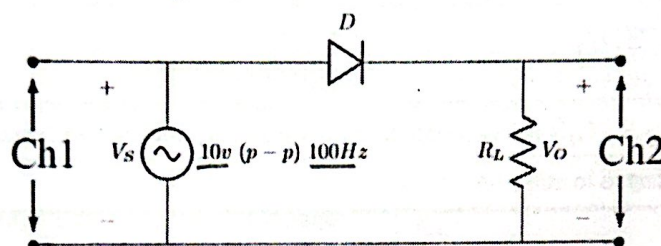

Figure 7: Half-Wave Rectifier
1. Construct the circuit of Figure 7 with $R_L = 10\text{ k}\Omega$ and observe V_s and V_o simultaneously on the oscilloscope using Channel 1 and Channel 2 simultaneously.